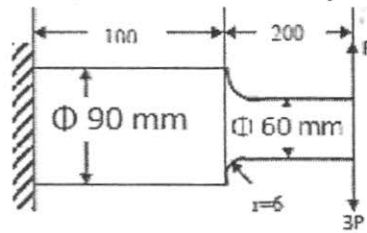

Fig.Q3 (b)
- b) A SAE 1025 cold drawn water quenched steel rod [$\sigma_u=620.8\text{MPa}$, $\sigma_y=400.1\text{MPa}$, $\sigma_{en}=345.2\text{MPa}$] of circular cross-section shown in Fig.Q3 (b). Is subjected to load that varying from $-P$ to $3P$. Determine the value of P , use factor of safety of 3.